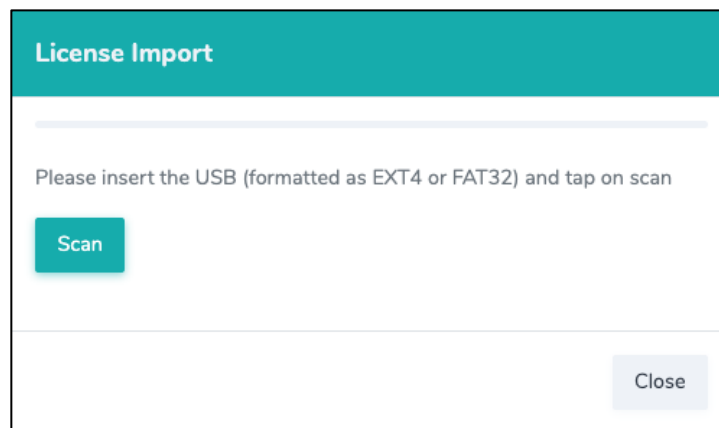
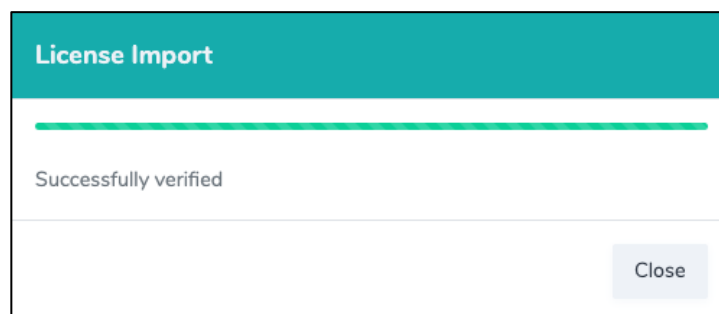

Figure 102
Figure 103
2. **Register with a License File:** If a license file has been provided, copy it to a USB flash drive and insert the USB into the USB-A port of the machine on the right side of the screen. Then, tap on the “Import License” button. Tap “Scan” on the License Import window (Figure 102) and wait till the license is validated (Figure 103).